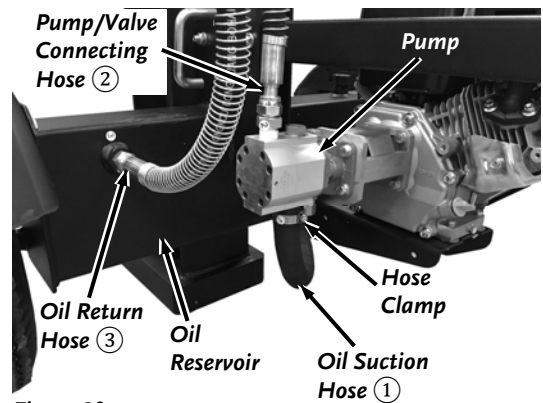
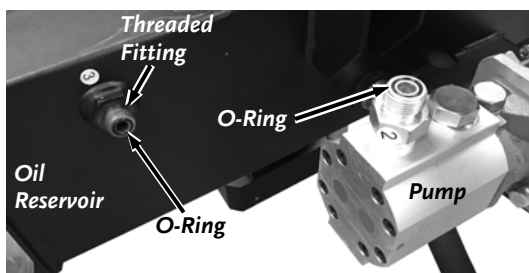
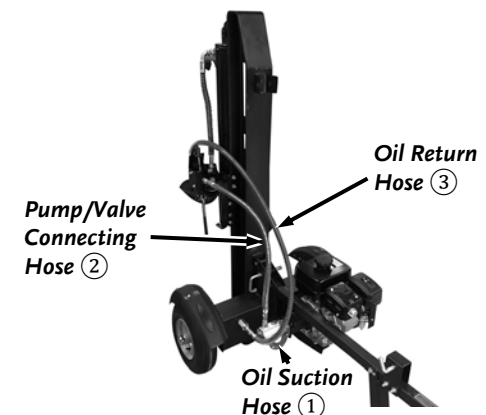

Figure 20
Figure 22
Figure 21
1. Oil Suction Hose, labeled as ①, comes from the bottom of the Oil Reservoir (**Figure 20**). Loosen the Hose Clamp on the open end of this hose using a flat head Screwdriver and connect the hose to the fitting on the bottom of the Pump. Tighten the hose clamp.
2. Pump/Valve Connecting Hose, labeled as ②, comes from the bottom of the valve on the Beam Assembly (**Figure 21**). Apply some Hydraulic Fluid to the O-Ring (11mm X 2mm) from Hardware Kit #4 and place the O-Ring into the groove of the fitting on top of the Pump (**Figure 22**). Screw the open end of this hose onto the fitting on top of the pump using a 27mm Wrench (or adjustable wrench) (**Figure 20**).
3. Oil Return Hose labeled as ③, comes from the front of the valve on the Beam Assembly (**Figure 21**). Apply some Hydraulic Fluid to the O-Ring (11mm X 2mm) from Hardware Kit #4 and place the O-Ring into the groove of the fitting on the Oil Reservoir (**Figure 22**). Screw the open end of this hose onto the Oil Reservoir using a 27mm Wrench (or adjustable wrench) to tighten the hose (**Figure 20**).